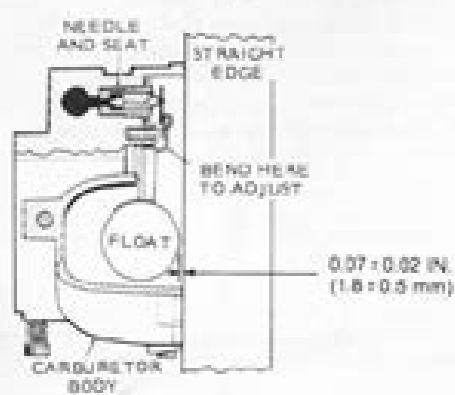

FIGURE 13. CARBURETOR FLOAT SETTING
4. Invert the carburetor and check the float setting (see Figure 13). The float should have a 0.07 ± 0.02 inch (1.8 ± 0.5 mm) clearance from the machined mating surface (without gasket). Bend the float tab as required.
5. If it is necessary to reset the float level, loosen the screw near float valve axle (pin) and bend the float arm near float valve axle (pin) to position float flush with top edge of carburetor float bowl. See Figure 13.